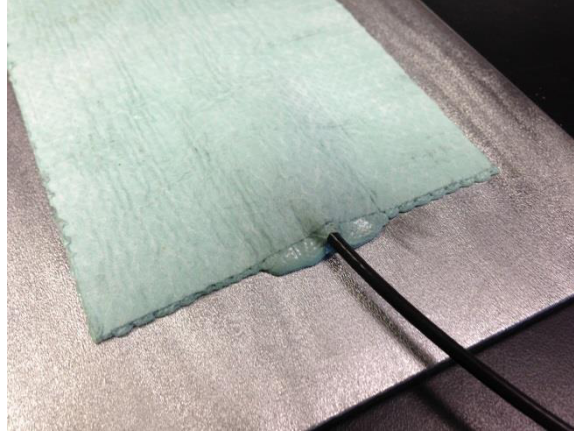

Figure 11 – Seal around Cable
- Firmly press and kneed the STOPAQ around the perimeter of the gage to form a tight seal with the base metal. Pay special attention to the area around the cable to ensure that it is sealed as shown in Figure 11.